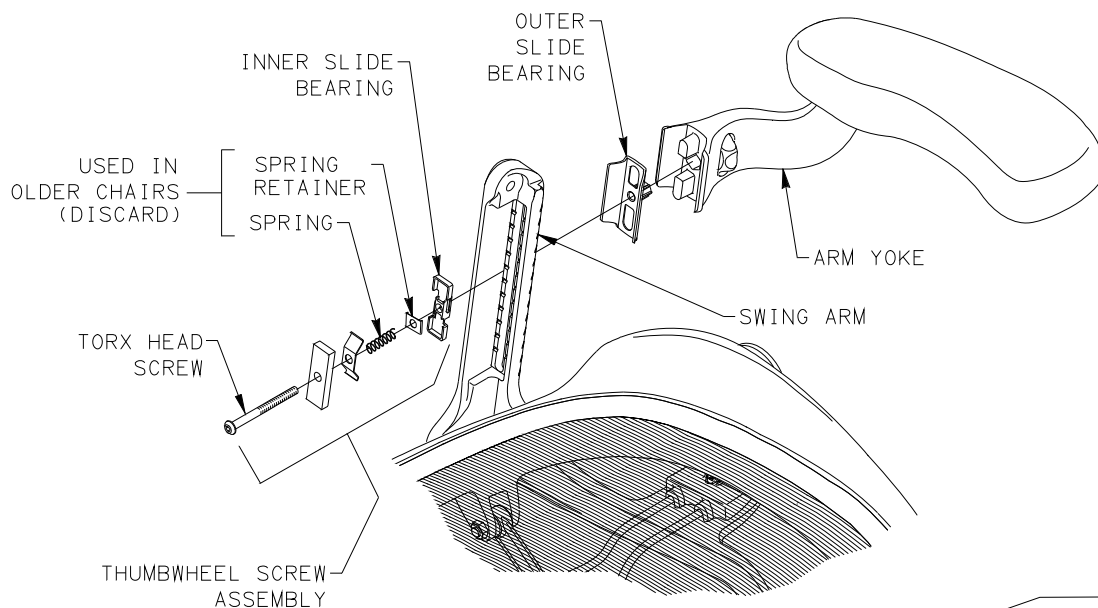

FIGURE 2
2. WHILE SUPPORTING ARM YOKE AND HOLDING THUMBWHEEL, USE T-27 TORX BIT AND RATCHET WRENCH TO REMOVE ARM YOKE. SET ASIDE ARM YOKE WITH RELATED HARDWARE. SET ASIDE THUMBWHEEL SCREW ASSEMBLY. REMOVE INNER AND OUTER SLIDE BEARINGS AND DISPOSE OF PROPERLY. NOTE: OLDER CHAIRS HAVE SPRING AND SPRING RETAINER IN THUMBWHEEL SCREW ASSEMBLY. REMOVE AND DISPOSE OF PROPERLY. SEE FIGURE 2.
3. KEEPING THUMBWHEEL IN PLACE IN THUMBWHEEL SLOT, INSTALL REPLACEMENT OUTER SLIDE BEARING TO END OF ARM YOKE AND POSITION ARM YOKE TO SWING ARM. SEE FIGURES 2 AND 3.
4. ADD REPLACEMENT INNER SLIDE BEARING TO THUMBWHEEL SCREW ASSEMBLY AND INSTALL TORX HEAD SCREW INTO THUMBWHEEL MAKING SURE THUMBWHEEL IS TIGHT AGAINST INNER WALL OF THUMBWHEEL SLOT. TIGHTEN SCREW UNTIL ARM HOLDS POSITIONED HEIGHT. SEE FIGURES 2 AND 3.